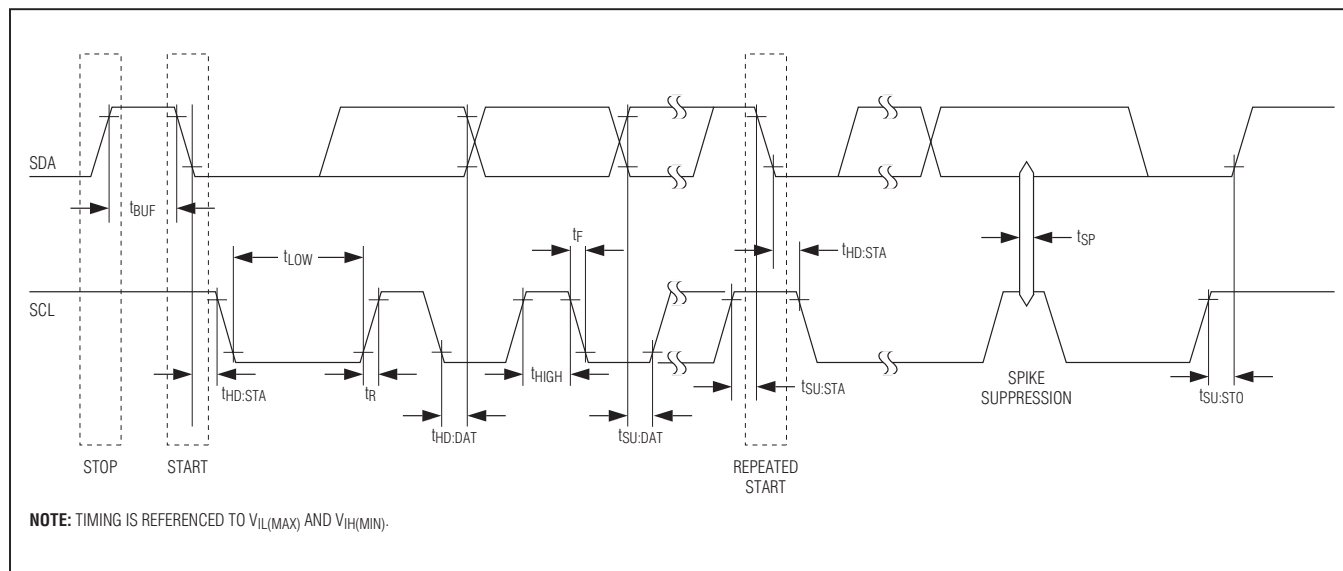

Figure 10. I²C Timing Diagram
The following terminology is commonly used to describe I2C data transfers. The timing references are defined in Figure 10.
**Data Valid:** With the exception of the START and STOP condition, transitions of SDA can occur only during the low state of SCL. The data on SDA must remain valid and unchanged during the entire high pulse of SCL plus the required setup and hold time ( $t_{HD:DAT}$  after the falling edge of SCL and  $t_{SU:DAT}$  before the rising edge of SCL; see Figure 10). There is one clock pulse per bit of data. Data is shifted into the receiving device during the rising edge of the SCL pulse.
When finished with writing, the master must release the SDA line for a sufficient amount of setup time (minimum  $t_{SU:DAT} + t_R$  in Figure 10) before the next rising edge of SCL to start reading. The slave shifts out each data bit on SDA at the falling edge of the previous SCL pulse and the data bit is valid at the rising edge of the current SCL pulse. The master generates all SCL clock pulses, including those needed to read from a slave.